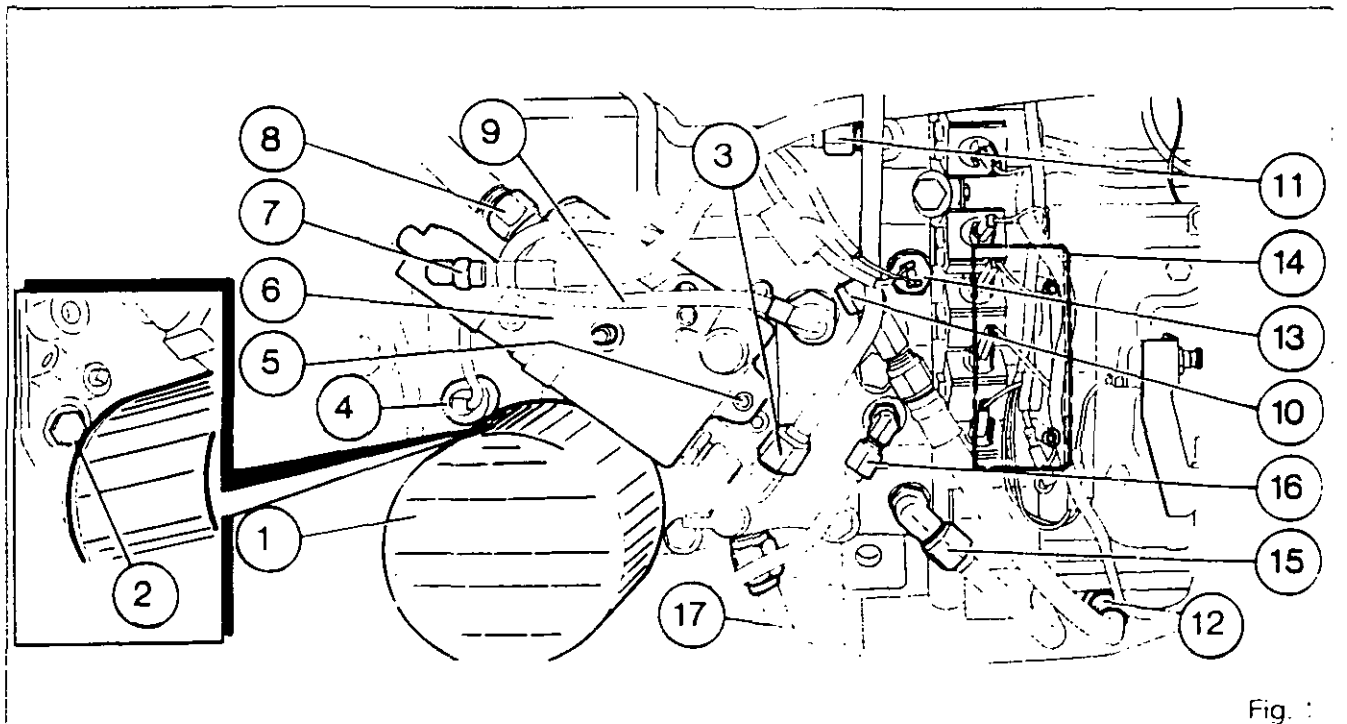

Fig. 1
**For operations 2 to 12 refer to Fig. 1.**
2. Remove the oil filter (1) to gain access to screw (2).
3. Remove the trailer brake socket feed pipe (3) (if fitted).
4. Remove the screws (5).
5. Remove the valve (6).
**Note: Do not disconnect the hose (7) on the pilot head, to avoid having to bleed the trailer brake circuit.**
- the hose (8) towards the auxiliary circuit
- the pipe (10) and hose (12) of the differential lock control (4WD)**Note: Hose (12) must be disconnected from the connector at the protector end.**
**On 2WD tractors, disconnect hose (10) only.**
- the supply pipe (16) of the 4WD clutch at both ends
21. Refit the cover and screws (2) (Fig. 1).
25. Refit valve (6) (if fitted) (Fig. 1).
26. Refit the screws (5) (Fig. 1) and tighten them to a torque of 25-35 Nm.